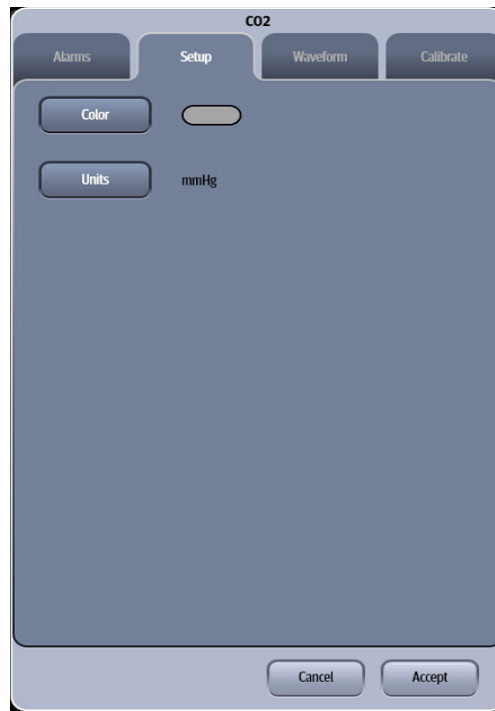

FIGURE 17-3 Example CO₂ Dialog (Setup Tab)
2. Select the **Setup** tab (as shown in FIGURE 17-3).